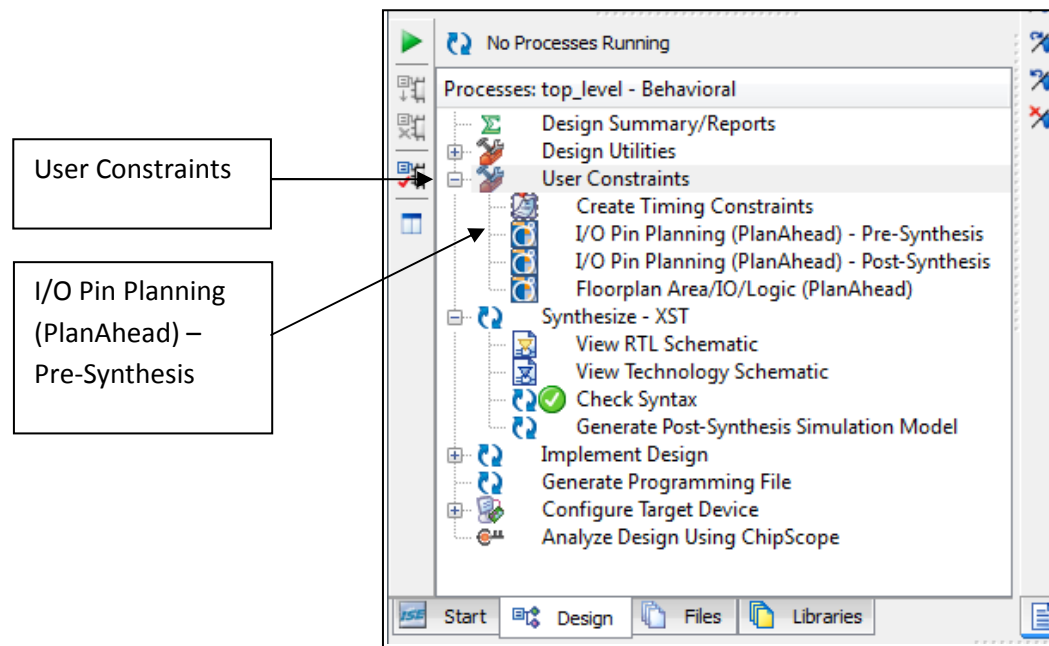

Figure 5.28: Portion of Project Navigator screen, with User Constraints expanded.
1. As shown in Figure 5.28, click on the '+' next to **User Constraints**. This will expand out to show various items, including **I/O Pin Planning (PlanAhead) – Pre-Synthesis**.